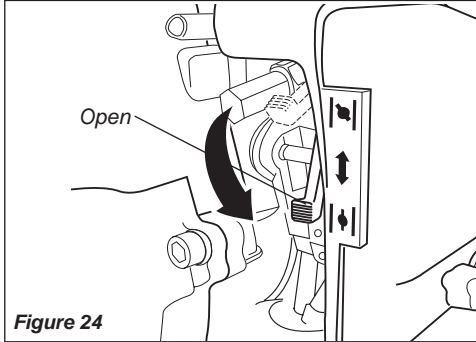

Figure 24
- When the engine starts, slowly move the choke lever to the "OPEN" position. See Figure 24. (If the engine stops after the initial start, close the choke and restart.)